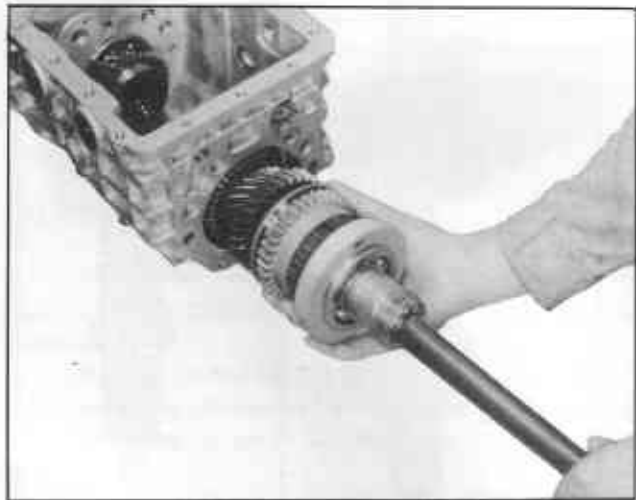

Fig. TM-17 Withdrawing main shaft assembly
15. Withdraw the main shaft gear assembly as shown in Figure TM-17.